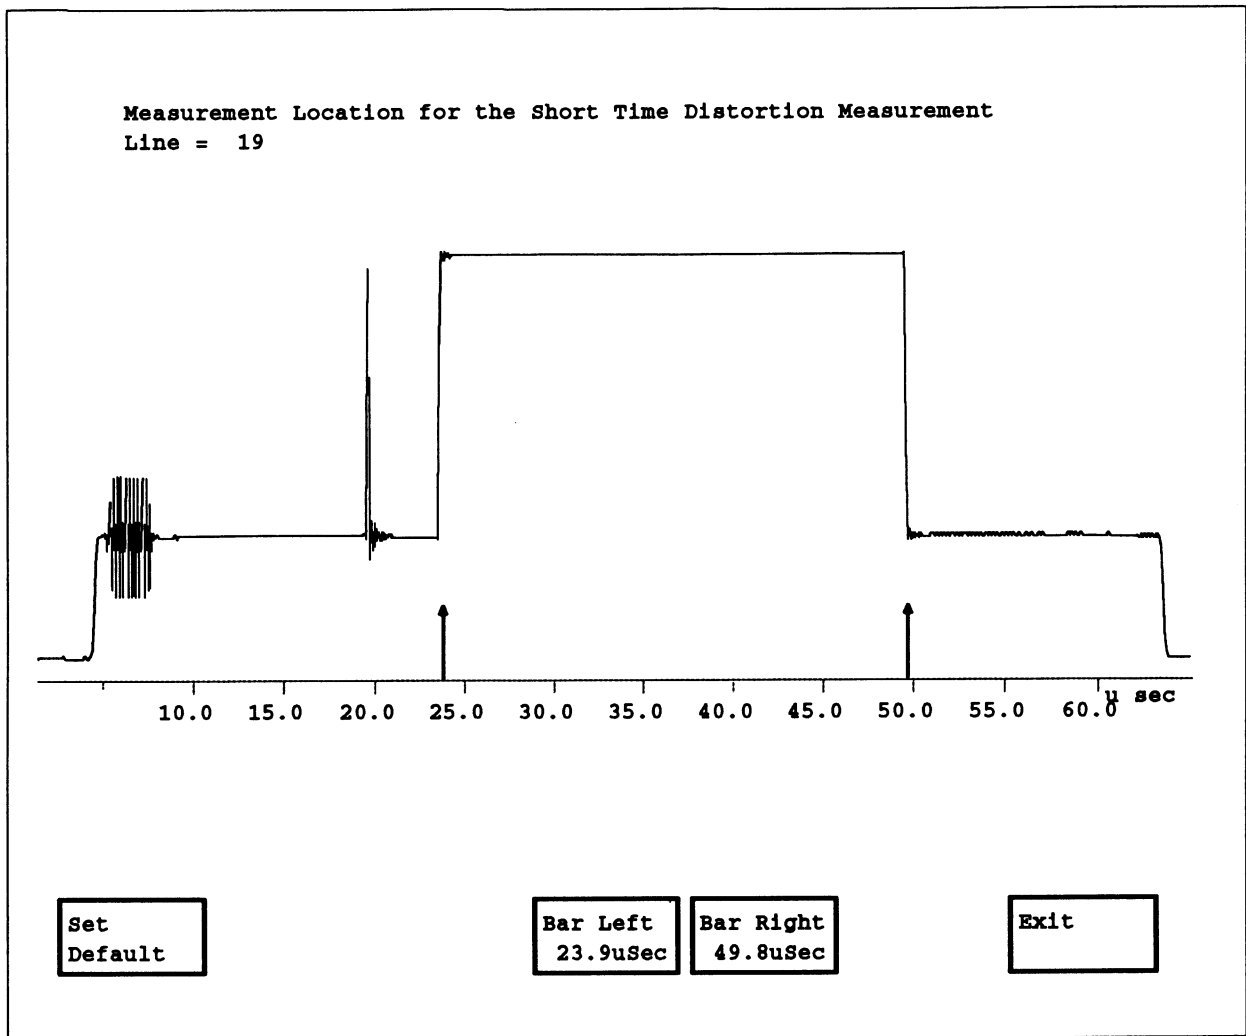

Figure 2-62. ShortTime Distortion Special Position display.
**Special Position** brings up the Special Position display (Figure 2-62) and the Special Position sub-menu, which provides softkeys to set the measurement locations for the ShortTime Distortion measurement.